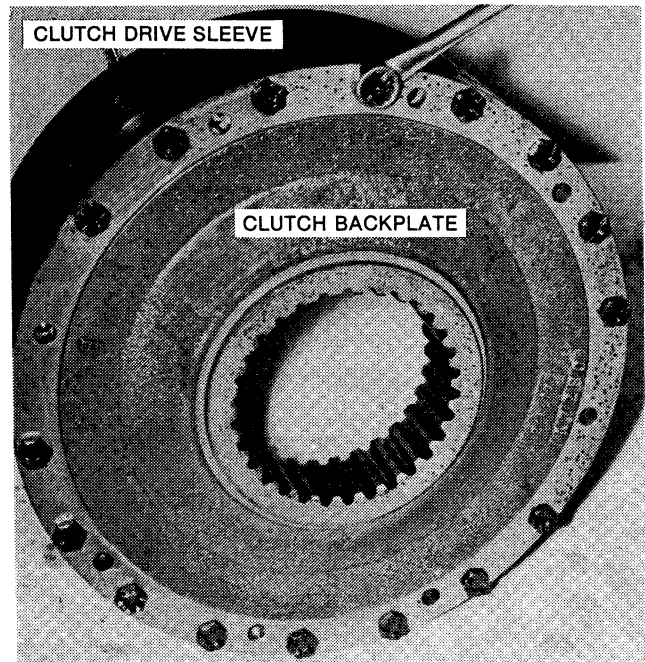

Figure 6-21. Removing or Installing Clutch Backplate.
27. If necessary, separate the clutch drive sleeve and clutch backplates by removing sixteen place-head screws from the forward and reverse clutch backplates. See Figure 6-21.